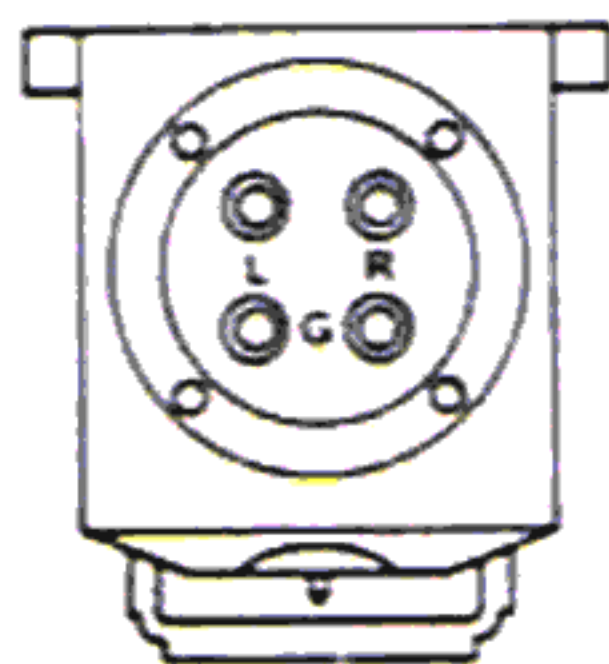

Fig. 2
- 3) Connect headshell leads to cartridge terminals located at the rear of the cartridge as shown in fig. 2, taking care to observe the colour coding.